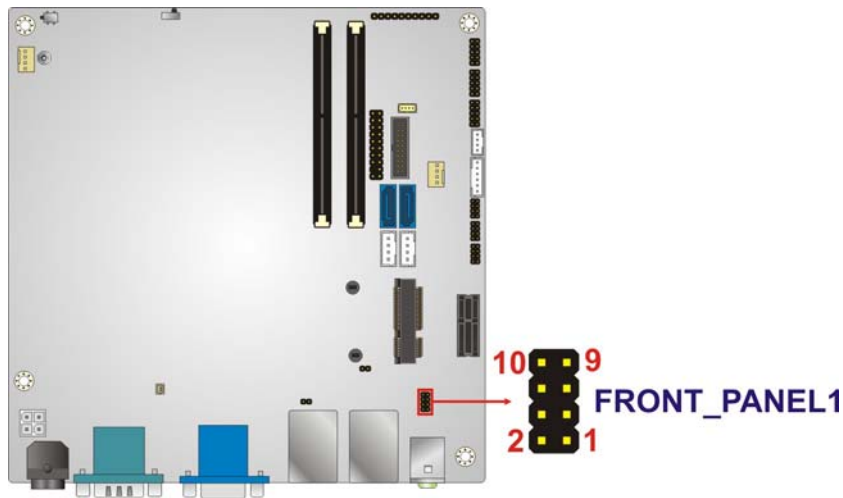

Figure 3-11: Front Audio Connector Location
- CN Location:** See **Figure 3-11**